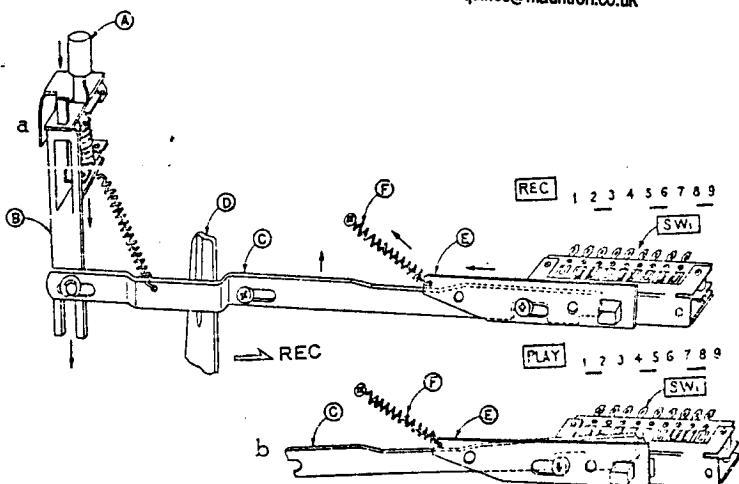

Fig. 10
By pushing *SOUND-ON-SOUND BUTTON* (A) while the recorder is set to recording condition, *LEVER* (D) is depressed and *LEVER* (C) is lifted through *LEVER* (B). Refer to Fig. 10-a.
As a result, *LEVER* (C) is released from stopper of SW-1 and SW-1 is reset to play condition as *LEVER* (E) is pulled by *SPRING* (F). Refer to Fig. 10-b.